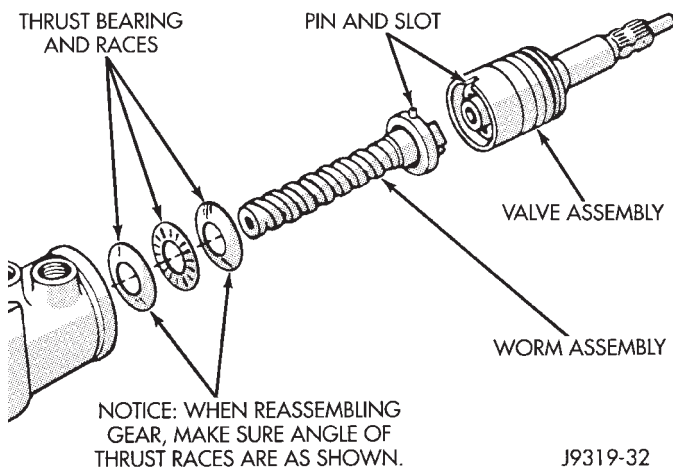

Fig. 25 Bearing, Worm and Valve Assembly
- (1) Remove adjuster plug, refer to Adjuster Plug Assembly Replacement.
- (2) Remove stub shaft and valve assembly (Fig. 25).